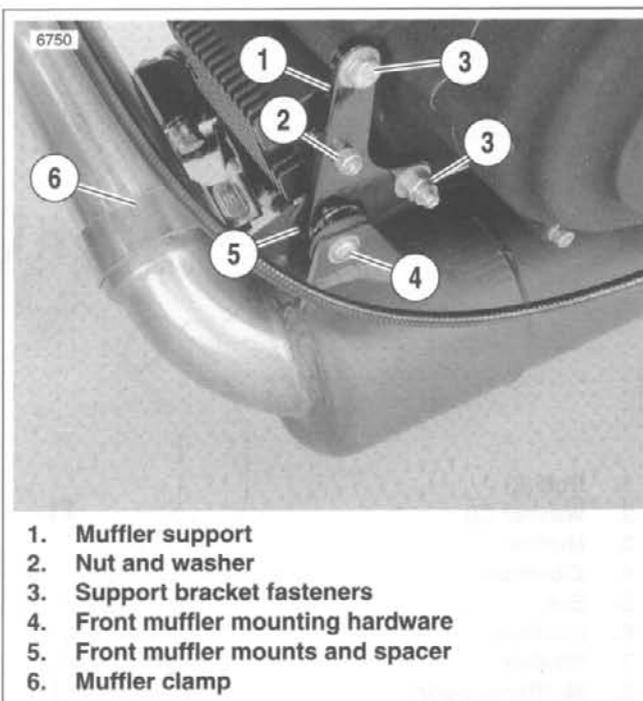

Figure 2-143. Front Muffler Support Installed
- a. Install rear muffler mounts (14) and mount spacers (15) on swingarm mount block.
- b. Attach Z-bracket (4) with bolts (10), locknuts (11) and washers (12, 13). Bolt heads install on opposite side of the swingarm mount block from Z-bracket. Tighten to 8-10 ft-lbs (10.8-13.6 Nm).
3. See Figure 2-143. If removed, attach front muffler support to crankcase.
- a. Insert two front muffler mounts and mount spacer (5) into muffler support.
- b. Install nuts and washers (2) securing front muffler support to voltage regulator bracket and crankcase.
- c. Attach front muffler support (1) to crankcase using fasteners (3). Tighten to 30-33 ft-lbs (40.7-44.7 Nm).
7. See Figure 2-143. Secure muffler to front mounting support with bolt, locknut and washers (4). Tighten to 17-19 ft-lbs (23-25.8 Nm).
8. When only the muffler is being replaced, tighten muffler clamp (6) to 40-45 ft-lbs (54.2-61.0 Nm). If also installing the exhaust header, leave muffler clamp loose.